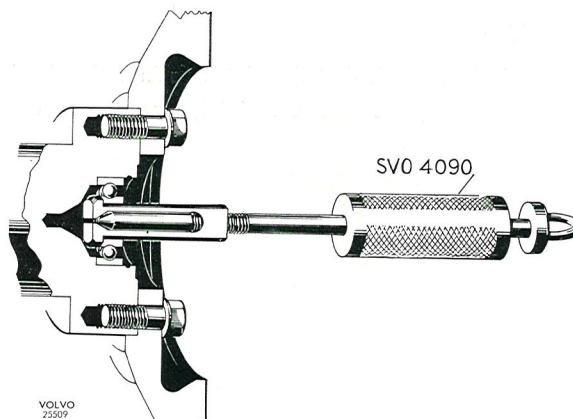

Fig. 4-8. Removing the pilot bearing
1. The bearing is pulled out with puller SVO 4090, see Fig. 4-8. The bearing is cleaned in petrol